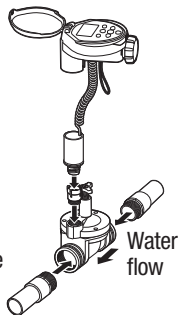

Figure 1a
2. Install a 3/4 in. ball or gate valve onto the PVC pipe or to the valve manifold before installing the controller (Figure 1a and 1b).